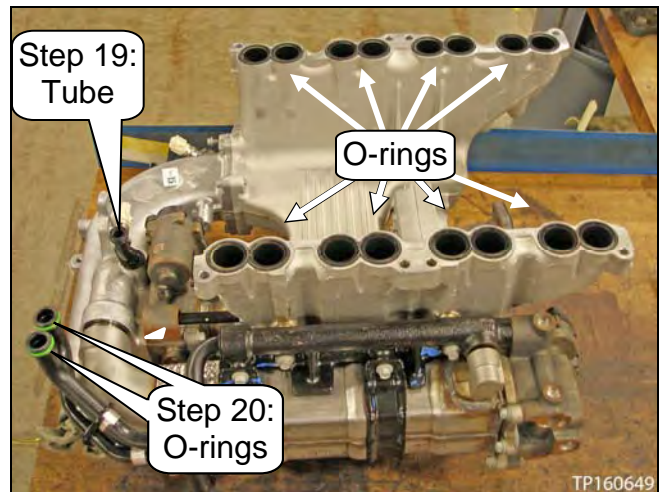

Figure 75
19. Fully insert the EGR bypass valve coolant tube to the intake manifold (see Figure 75).
20. Replace the two water transfer connection tube O-rings with new ones (see Figure 75).
21. Install all O-ring gaskets in the intake manifold (see Figure 75).